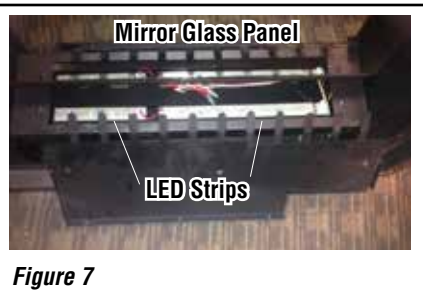

Figure 7
- i. With the ember bed removed, the 2 ember bed LED strips will be visible (see **Figure 7**).